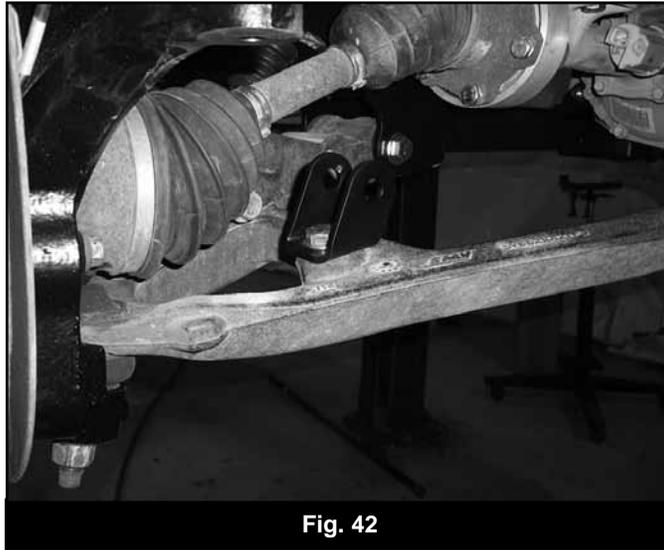

Fig. 42
74. Install the provided offset sway bar link u-bracket (02102) on the lower control arm in the original sway bar link hole with a 5/8" x 1-3/4" bolt, nut and washers (BP 569). Position the bracket so that it offsets in toward the center of the vehicle (Fig 42). In some cases it may be necessary to slightly clearance to hole for the 5/8" hardware.